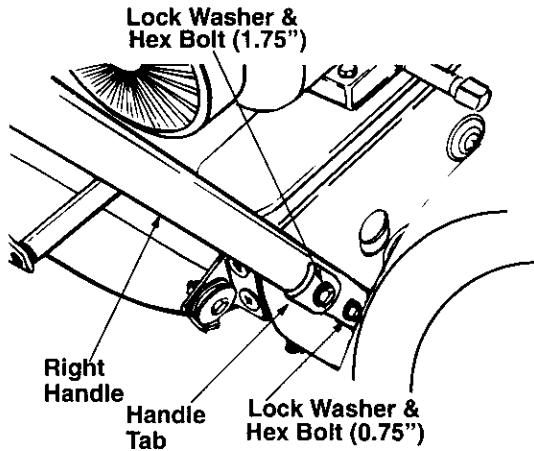

Figure 2
- Secure bottom hole in the handle to the snow thrower using 5/16 x .75" hex bolt and lock washer from the hardware pack (group A on page 5). Do not tighten at this time. See Figure 2.
- Place a handle tab, included in the hardware pack (group A on page 5), over the upper hole in handle so that the contour of the handle tab matches that of the handle. See Figure 2.